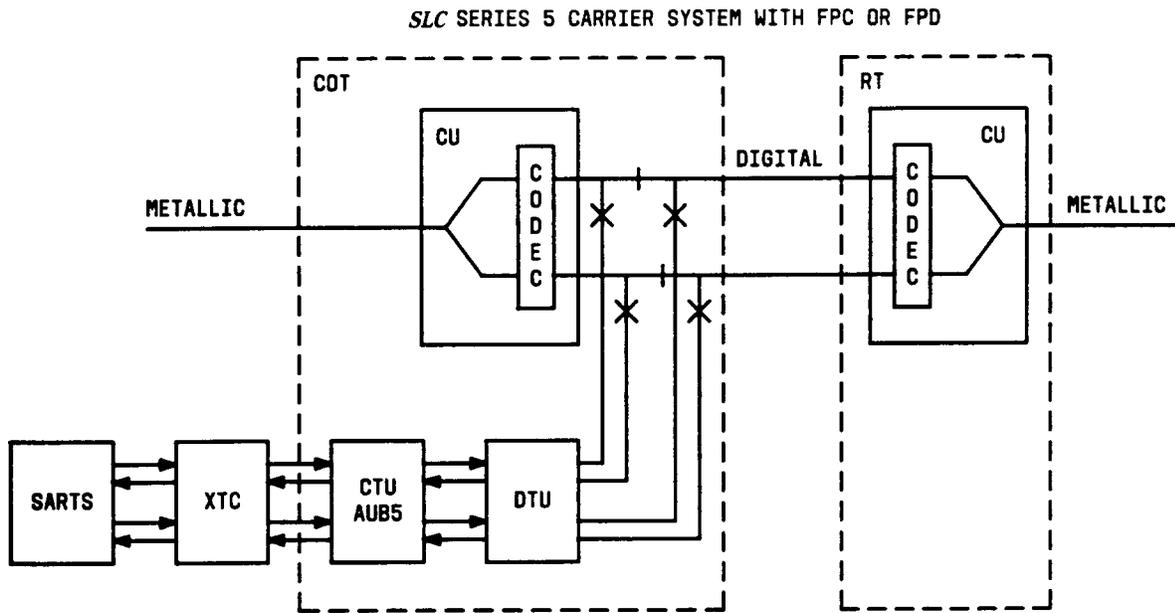

Figure 3— SARTS Test Access to Digital Bitstream
- Allows full-splitting access to a channel at a digital access point (Figure 3). On request, a compatible voice frequency interface or a 64-kb/s bipolar digital interface is available. The digital interface is used for test access to dataport channels. The compatible voice frequency interface is used for E SPOTS, DID, and 4-wire channel units — if a transmission only interface is requested, it can be used in a limited manner for POTS, SPOTS, FSR, multiparty, and coin channel units.